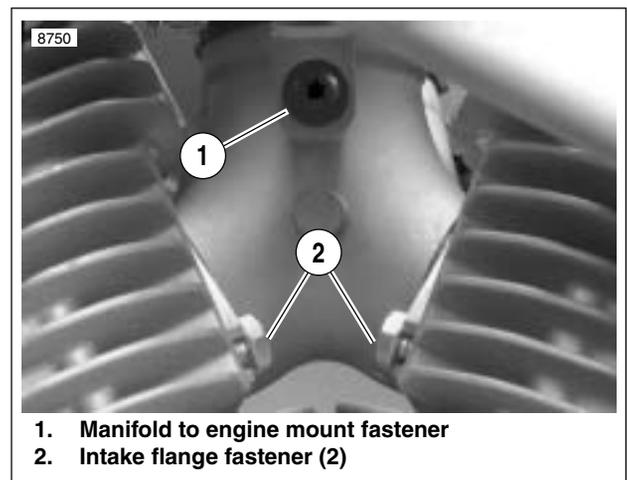
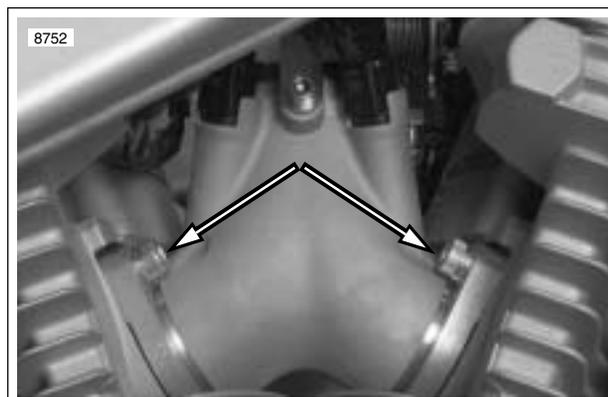

Figure 4-70. Intake Manifold (primary side)
Figure 4-71. Intake Manifold Fasteners (gearcase cover side)
- a. See Figure 4-70. On primary cover side, loosen but do not remove the two front and rear intake flange fasteners (2).
- b. Remove fastener (1) holding manifold to engine mount.
- c. See Figure 4-71. On gearcase cover side, remove both intake flange fasteners from cylinder heads.
- a. See Figure 4-70. Slide the assembly toward installed position. Manifold should slide over fasteners (2) on primary cover side of engine.